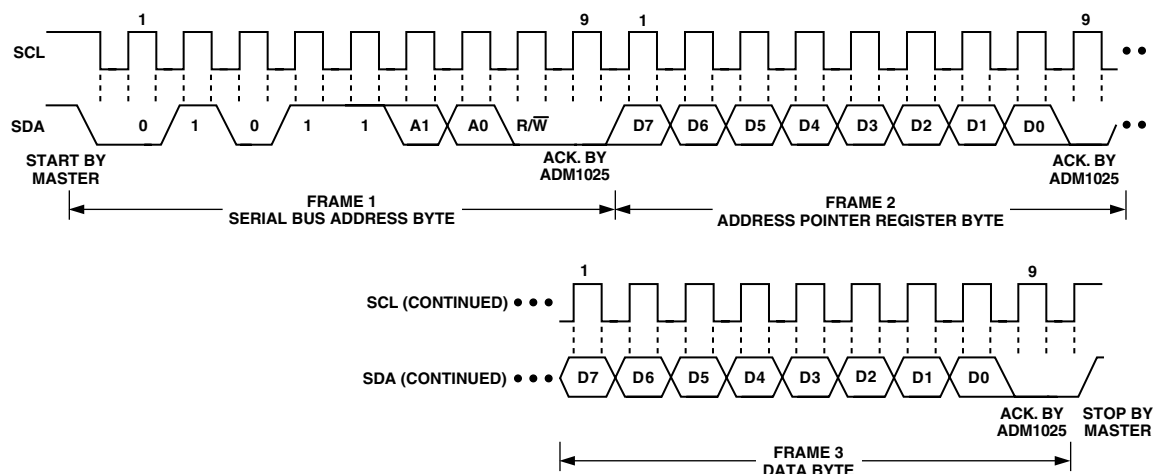

Figure 2a. Writing a Register Address to the Address Pointer Register, then Writing Data to the Selected Register
This is illustrated in Figure 2a. The device address is sent over the bus followed by $R/\overline{W}$ set to 0. This is followed by two data bytes. The first data byte is the address of the internal data register to be written to, which is stored in the Address Pointer Register. The second data byte is the data to be written to the internal data register.
2. In Figures 2a to 2c, the serial bus address is shown as the default value 01011(A1)(A0), where A1 and A0 are set by the three-state ADD pin.